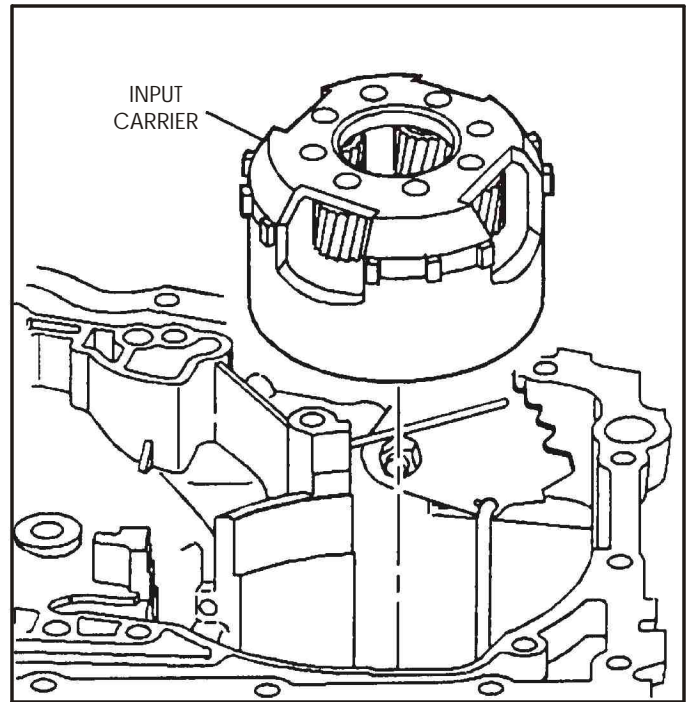

Figure 74
26. Remove the input carrier from the transaxle, as shown in Figure 74.